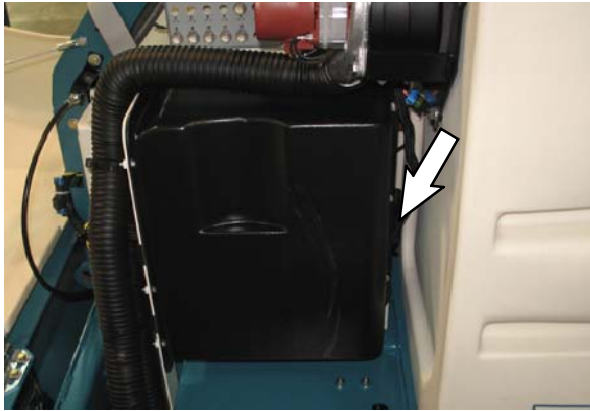

FIG. 9
14. Route both 45" (1140 mm) hoses from the operator compartment and into the control board compartment. Refer to Fig. 9.